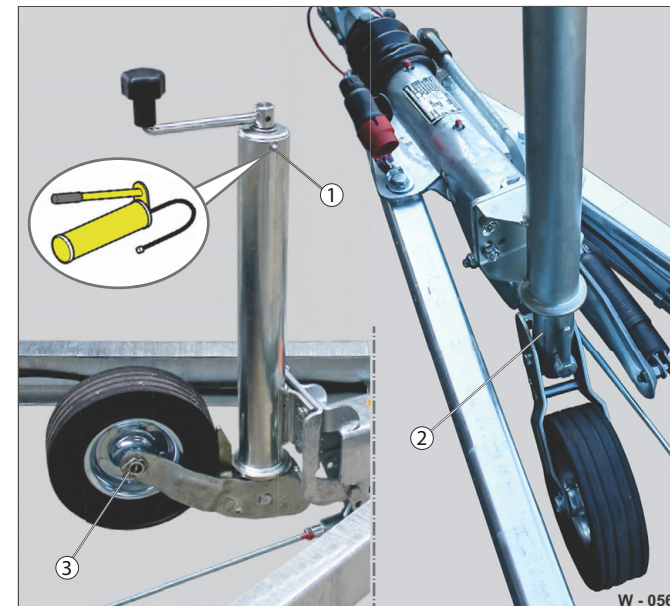

Fig. 45 Automatic jockey wheels: Lubrication points
- Check the bearing point and the wheel (Fig. 45 /3) for deformation.
- Lubricate the jockey wheel at the grease nipple (Fig. 45 /1) using a grease gun.
- Grease the sliding point (Fig. 45 /2).